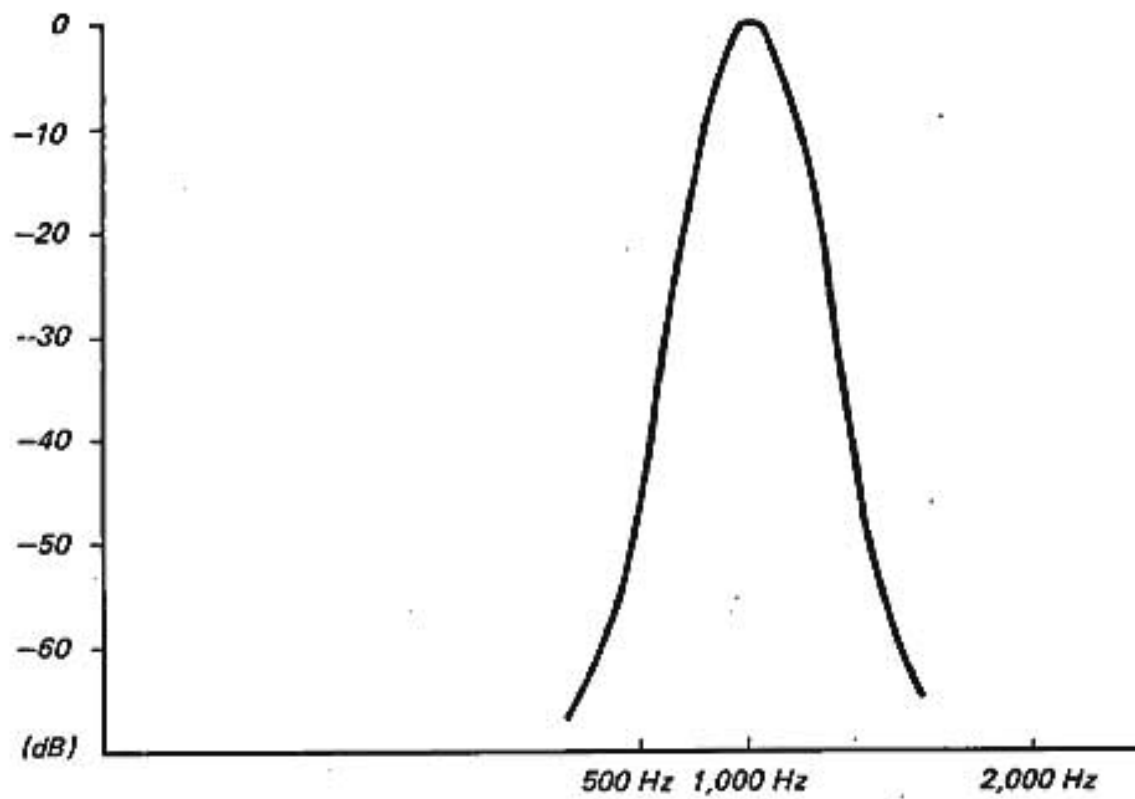

Fig. 8-6. Response of 1,000 Hz bandpass filter
- See Fig. 8-6 for the response of the bandpass filter.